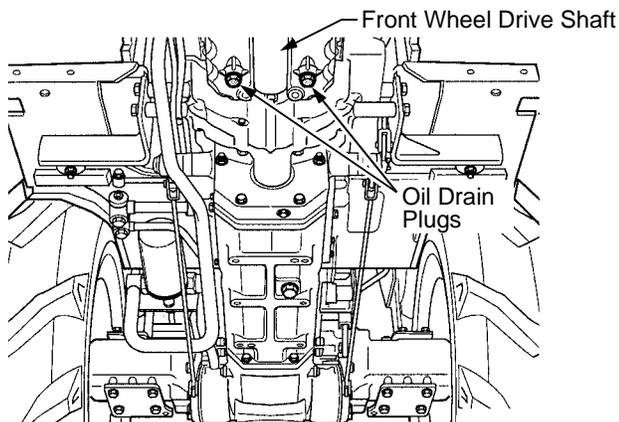

Figure 58
- Locate the engine drain plugs on the bottom of the engine. Place a suitable container below the drain plugs to collect the old oil. See Figure 58.